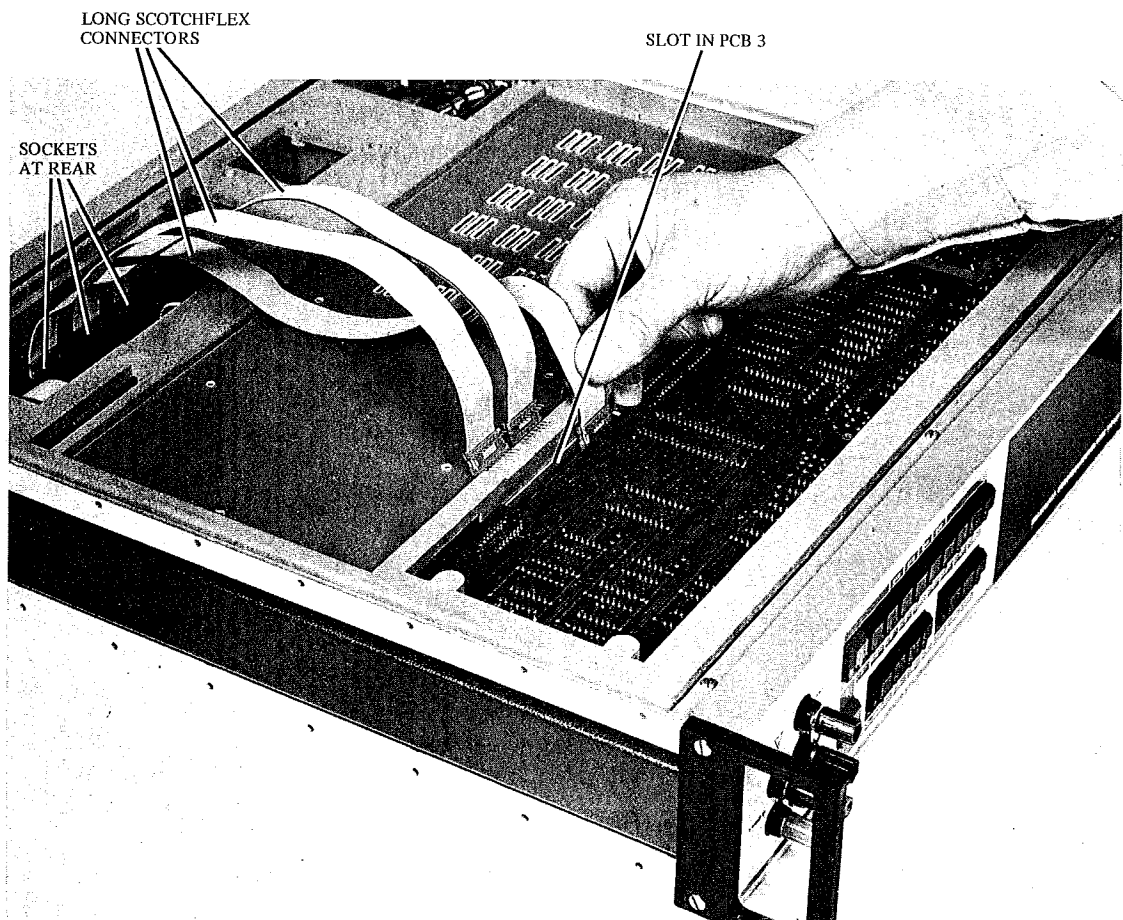

Fig. 3 Fitting the long Scotchflex connectors
10. Connect the other ends of the long Scotchflex connectors to the sockets inside the instrument at the rear. (These pass through the recess in pcb 3, underneath the instrument, and are correctly aligned with their respective sockets – see Fig. 3.)